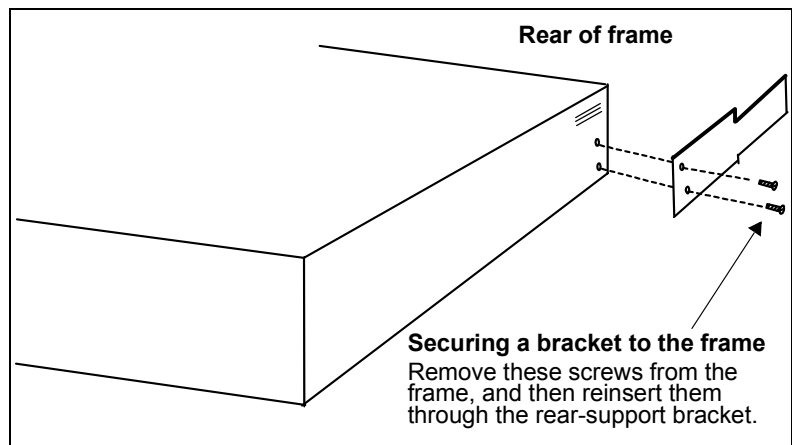

Figure 2-3. Installing a Rear-Support Bracket
3. Attach the two tongue-shaped frame-support brackets to the sides of the FR6802+ frame, using the provided screws. See Figure 2-3.